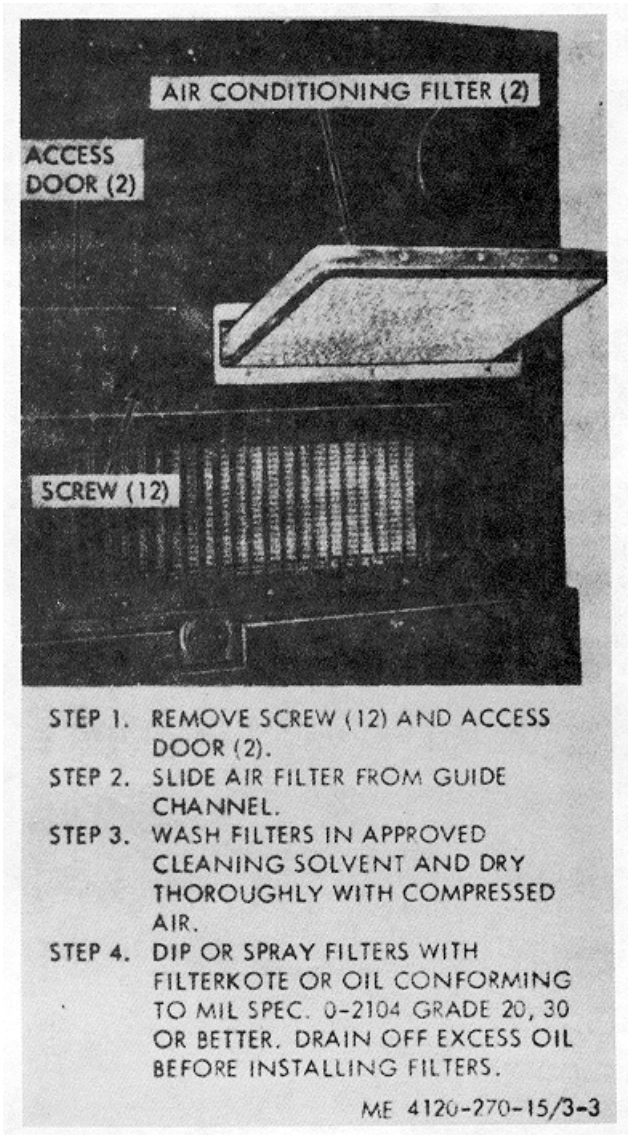

Figure 3-3. Servicing air conditioning filter.
- d. **Installation.** Refer to figure 3-3 and install filters and access doors in reverse order of removal.